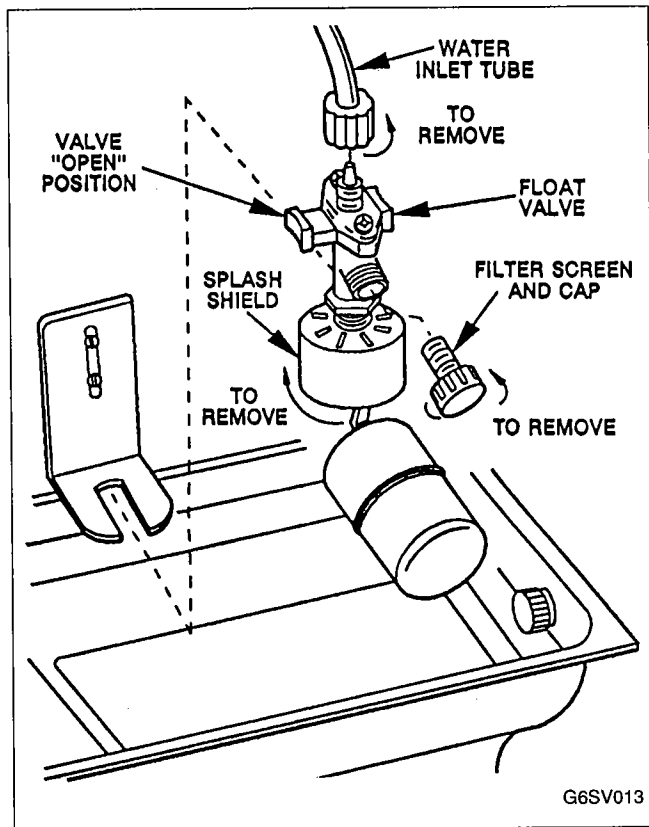

FIGURE 13. FLOAT VALVE REMOVAL
REMOVE FLOAT VALVE (Figure 13)
1. Turn on water to ice machine at water service valve and verify float valve is open, Figure 13, page 15.
2. Allow trough to fill to proper operating level, Figure 13, page 15.
6. Shut off water at float valve. See Figure 13.